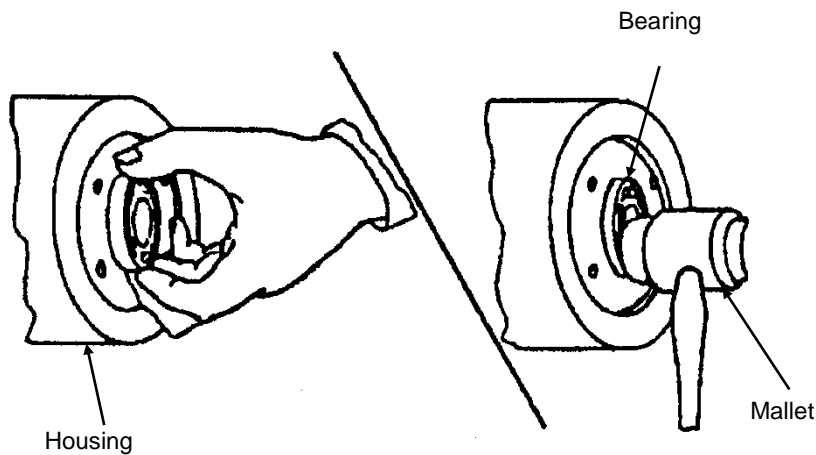

FIG 11.
- B. Align the bearing with the bore and initially fit it by hand. A soft mallet may be used if necessary. (Fig 11)